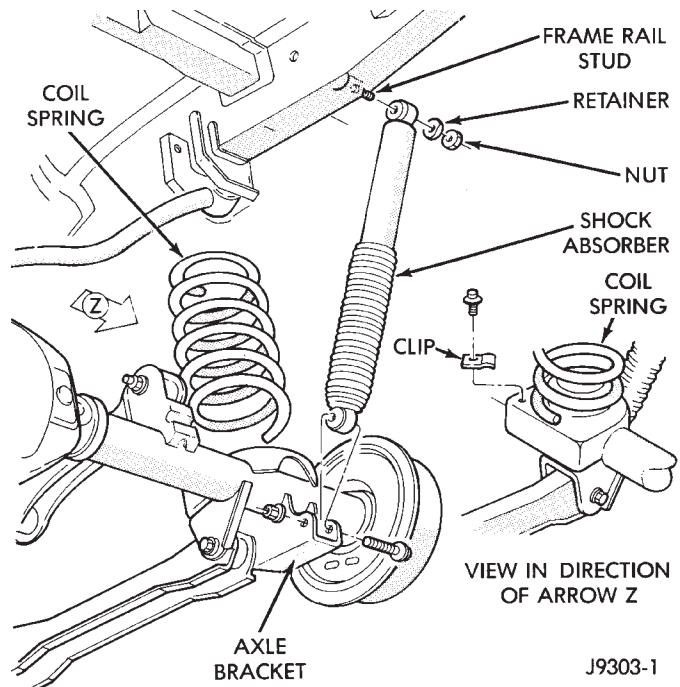

Fig. 2 Rear Coil Spring & Shock Absorber
- (1) Raise and support the vehicle. Position a hydraulic jack under the axle to support it.
- (2) Remove the upper nut and retainer from the frame rail stud (Fig. 2).
- (3) Remove the lower nut and bolt from the axle bracket. Remove the shock absorber.
- (3) Disconnect the track bar from the frame rail bracket.
- (4) Lower the axle until the spring is free from the upper mount seat. Remove the coil spring retainer bolt (Fig. 2) and remove the spring.